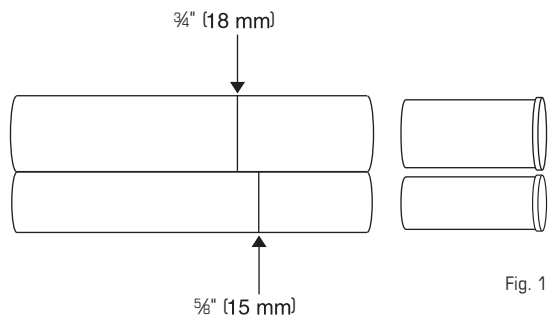

Fig. 13
4. **Lay** each tube from the Diverter on the diagram. Use a pen to **mark** a line across them at the arrows. **Push** tubing supports into their respective tubes, until they are flush with the end of the tubes (Fig. 13).